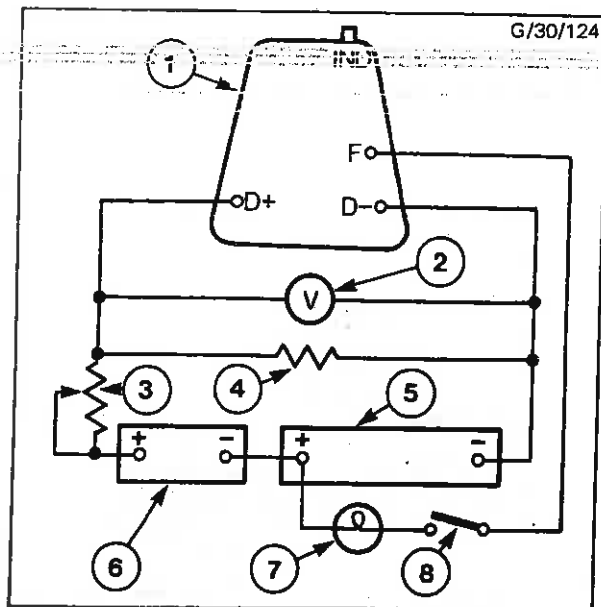

Fig. 88 - Regulator Test Circuit
2. Wire the regulator test circuit as shown in Fig. 88.